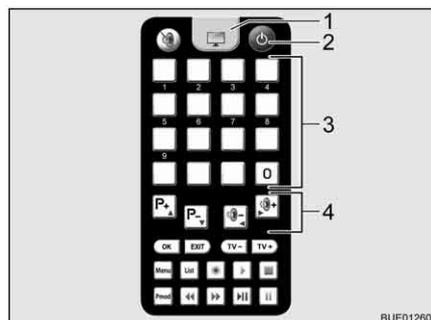

Fig. 24 Remote control for television
- Press the key "⏻" (Fig. 24,2) on the remote control for the television. The unit switches to search mode. You will hear a continuous tone.
- To switch to television reception on the TV remote control, press the TV button (Fig. 24,1). The signal tone will stop. An image will appear on the screen.
- Use the memory buttons (Fig. 24,3) on the TV remote control or the function buttons (Fig. 24,4) to select the desired station.